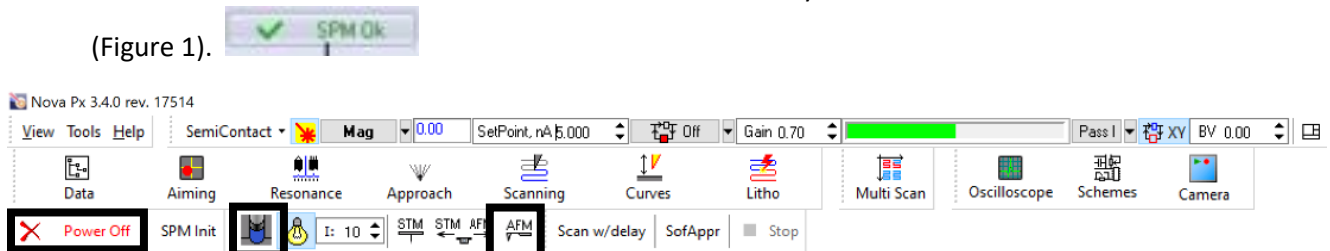

Figure 1: Main control panel of Nova Px
(Figure 1).
- Open the instrument door by clicking the door icon (Figure 1).
- Once there is clearance between the sample and the AFM head insert the head by clicking this button (Figure 1).